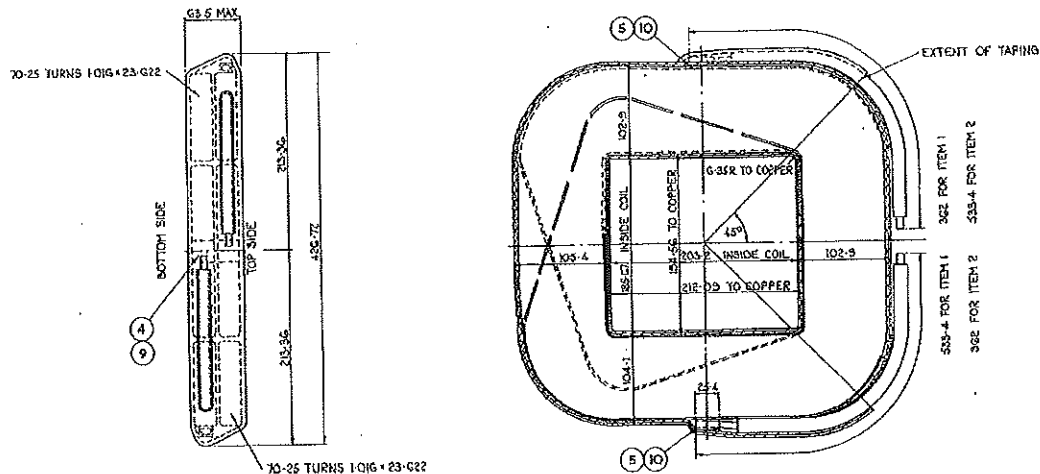

Figure 2 : Side and Top View of an individual TOP/BOTTOM Coil
- Overall Insulation Resistance should remain above 200Mohm throughout a lifespan of 5 Years. Maximum Dimensions as shown in Figure 2.